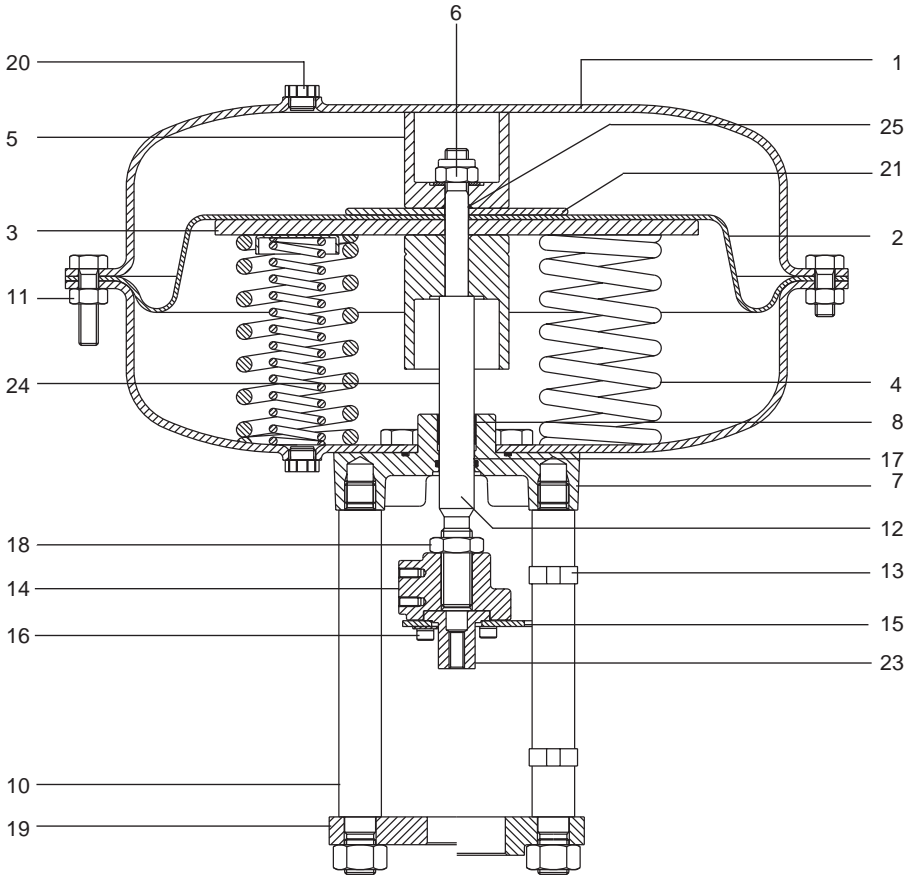

Fig. 10 PN 6500, PN 6600 series actuator
6.2.1 Diaphragm kit - How to fit (See Fig. 10)
6.2.2 Spring kit - How to fit (See Fig. 10)